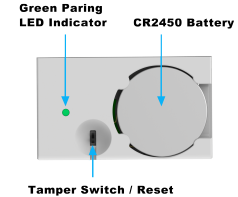

Figure 2
4. If network is not found after 100 seconds, the sensor will go into sleep mode. To wake the sensor again, you need to use magnet or tamper (Figure 2) to trigger a pairing process, and then sensor will repeat steps from 3 to 4.